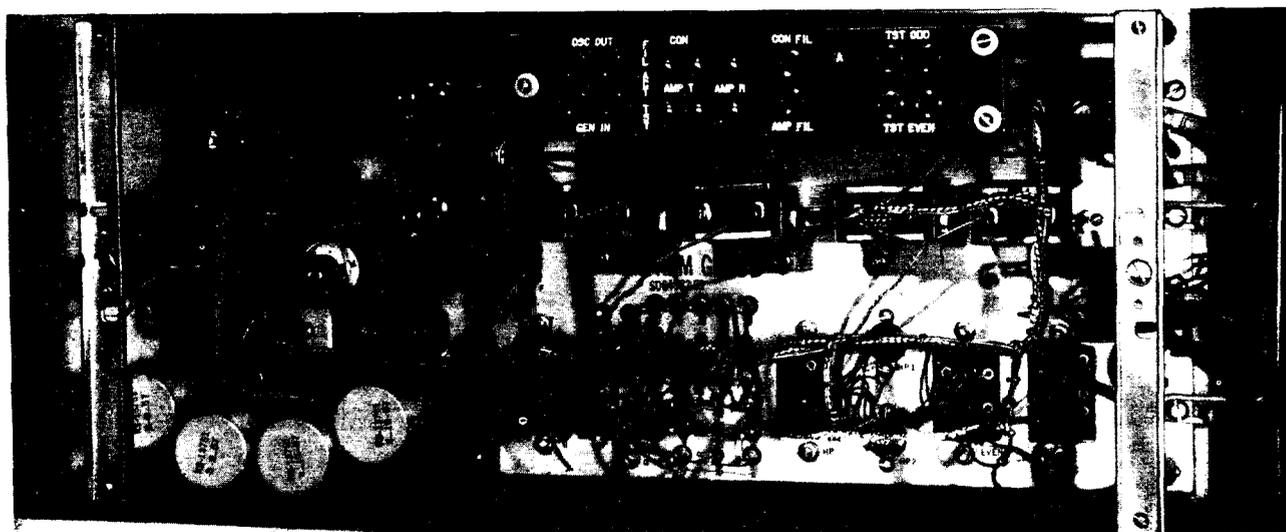
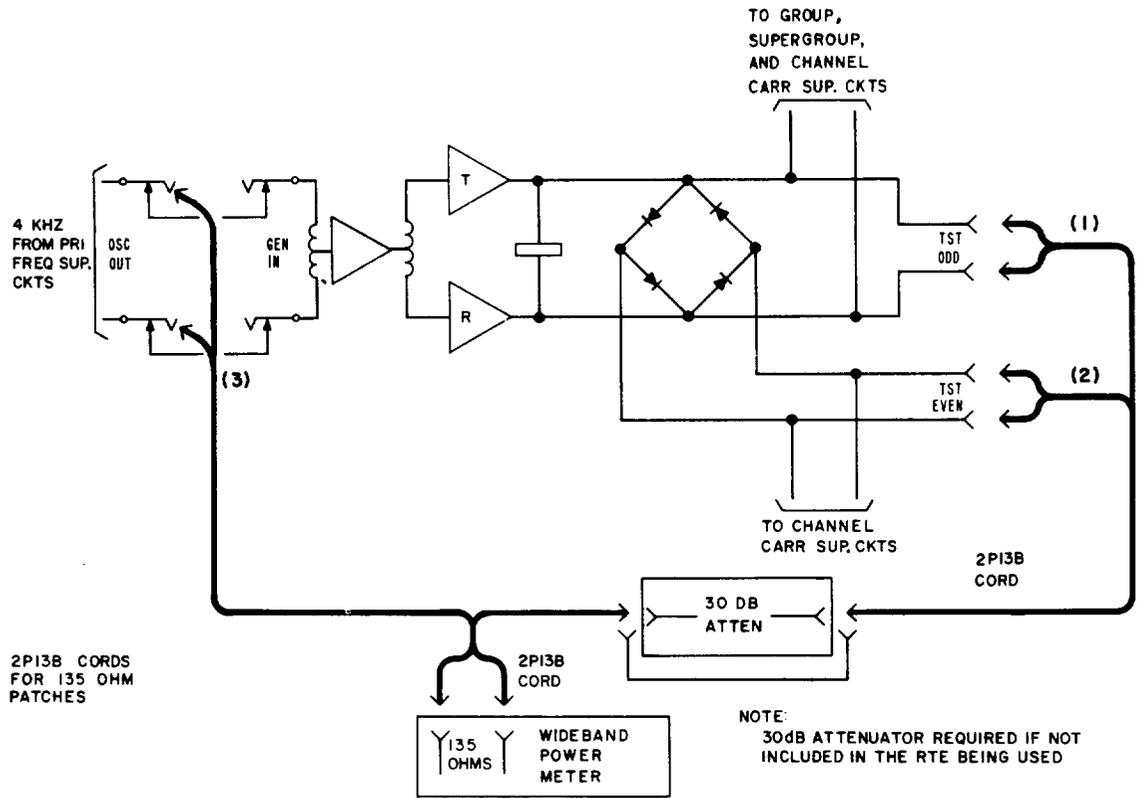

Fig. 1—J68775G 4-kHz Harmonic Generator—Front Cover Removed
Fig. 2—J68775G 4-kHz Harmonic Generator-Measurement of Output Power
The purpose of these tests is to verify the correct output power of the 4-kHz harmonic generators (Fig. 1).
The 4-kHz harmonic generator (Fig. 1) receives its input directly from the primary frequency supply or, if provided, from the impedance transformation and 4-kHz distributing circuit. Odd harmonics of the 4-kHz base frequency are generated by a saturated core inductor circuit driven by the push-pull amplifier stage, AMP T and AMP R. Even harmonics are generated by a copper oxide bridge rectifier circuit in parallel with the saturated core inductor (Fig. 2). The odd harmonic output from the 4-kHz harmonic generator is distributed to the group and supergroup carrier supply circuits. A combination of odd and even harmonics is distributed to the channel carrier supply circuits.
5	Connect the wideband power meter through a suitable 30-dB attenuator to the TST ODD jack of the 4-kHz harmonic generator [patch (1), Fig. 2].
7	Remove patch (1), Fig. 2.
10	Connect the wideband power meter through a suitable 30-dB attenuator to the TST EVEN jack of the 4-kHz harmonic generator [patch (2), Fig. 2].
12	Remove patch (2), Fig. 2.
3	Connect the wideband power meter to the OSC OUT jack of the 4-kHz harmonic generator under test [patch (3), Fig. 2.]. (This is a reading of the 4-kHz output only.)